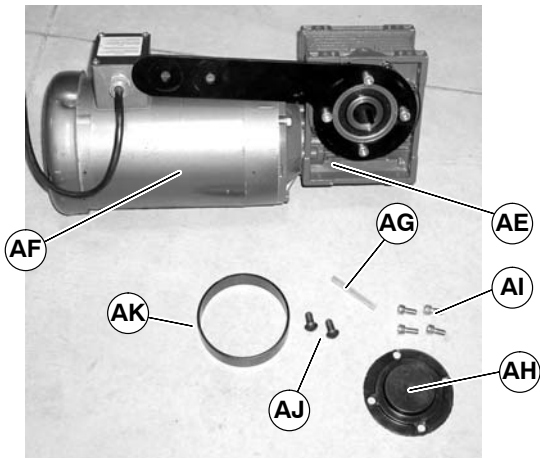

Figure 13
1. Locate components of Figure 13.